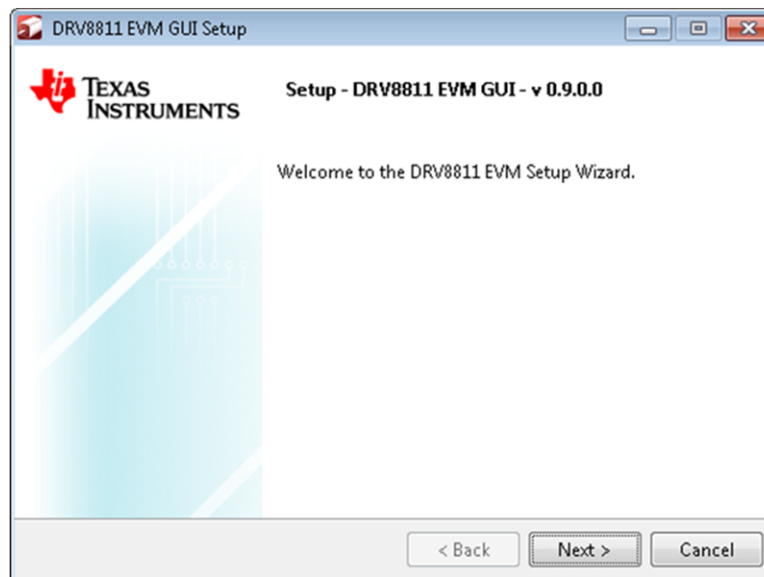

Figure 4. Installation Initialization
2. The screen shown in Figure 4 appears, indicating installer initialization. Click the **Next** button.